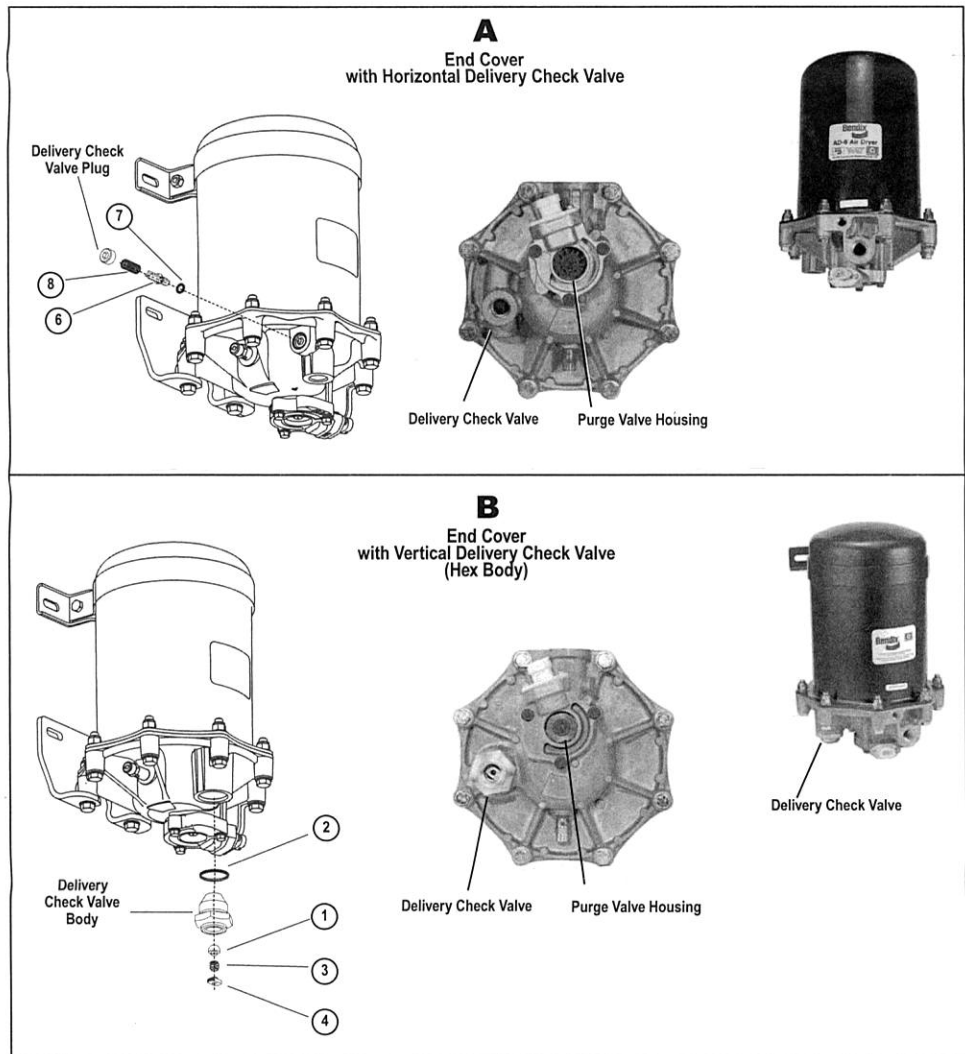

Figure 1 - Bendix® AD-9® Air Dryer Universal Check Valve Kit
This kit contains all the necessary components to service the Bendix® AD-9® air dryer delivery check valve. There are two different types of end covers as shown in Figure 1. Type "A" is the current production version and has a horizontal check valve. Type "B" is an earlier design and has a vertical check valve that can be identified by its large brass hex body in the bottom of the air dryer end cover.
4. Identify the end cover type ("A" or "B") as shown in Figure 1.
5. Identify the components needed for the correct installation and set the others aside. See Figures 1 and 2 for components needed.
Remove and retain the delivery check valve plug from the air dryer end cover. See Figure 1.